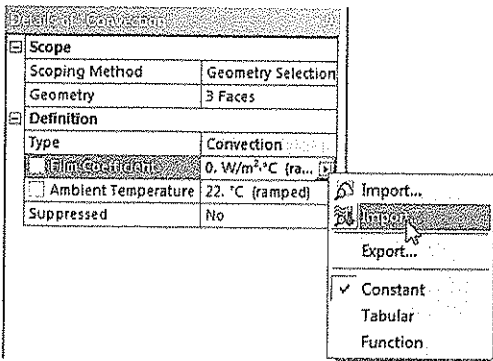
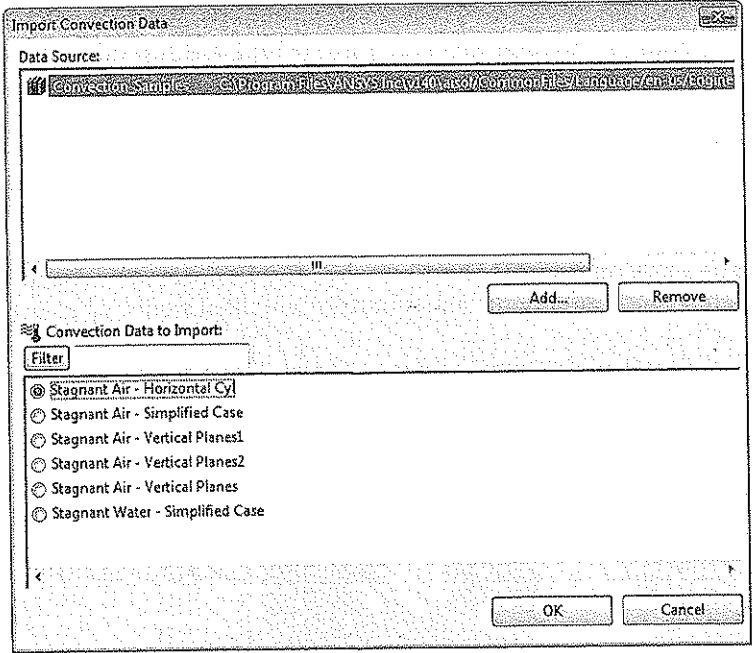

Figure 11-11 The Import option chosen from the Film Coefficient drop-down
Figure 11-12 The *Stagnant Air - Horizontal Cyl* radio button selected from the *Import Convection Data* window
12. Now, choose the **Import** option from the **Film Coefficient** drop-down, refer to Figure 11-11; the **Import Convection Data** dialog box is displayed, as shown in Figure 11-12.
13. In the **Import Convection Data** window, select the **Stagnant Air - Horizontal Cyl** radio button, refer to Figure 11-12.